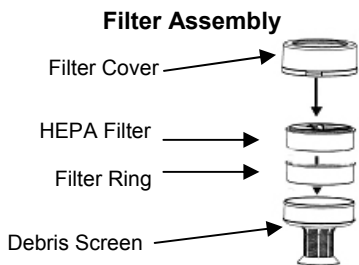

Fig. 15
2. To separate the filter assembly, hold the bottom of the debris screen and pull the filter cover out. Then remove the HEPA filter with the filter ring from the debris screen (Fig. 15)